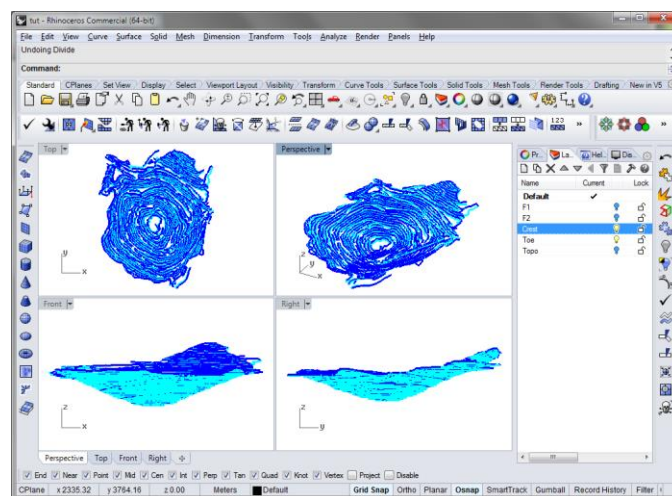

Figure 138: Crest and Toe layers turned on.
3. Type **_Layer** to open the Layers Panel. Select all layers and click on one lit light bulb (in the Layers Panel) to **hide all** layers. Select the **Toe** and **Crest** layers, click on the light bulb (in the Layers Panel) to turn these 2 layers on (Figure 138).